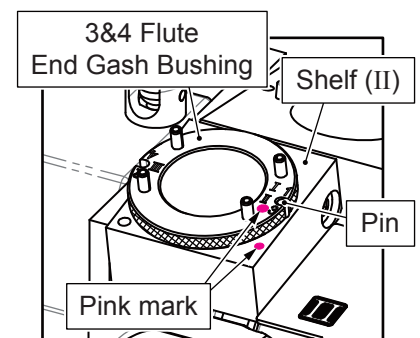

Fig. 5-22
2) End Gash Grinding Shelf (II) (Fig. 5-22)